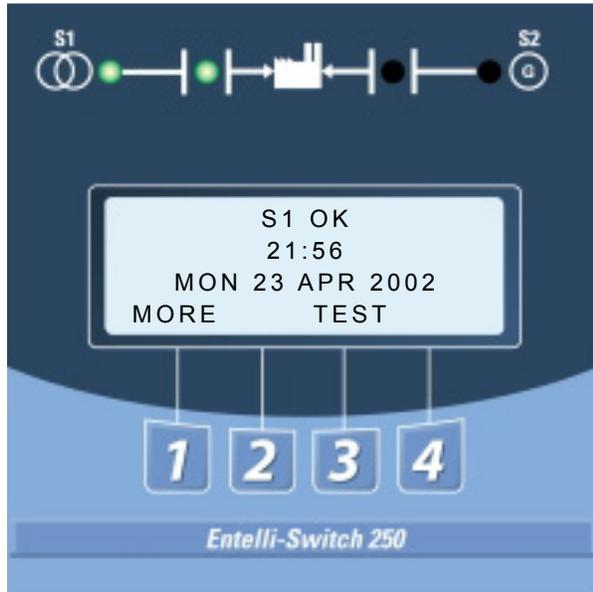

Figure 4 - LCD and keypad
After all options and accessories are checked and verified, follow these steps to set up the ATS. Refer to Entelli-Switch 250 display *Figure 4*. The annunciation LEDs illuminate to indicate (1) source availability, (2) ATS position, and (3) Entelli-Switch 250 control function (timing).